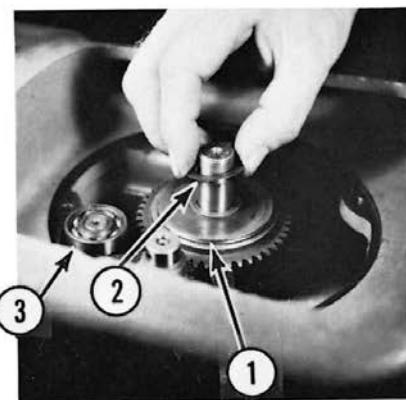

Fig. 3-33
- Q. Install upper planetary spacer with hub side up (1, Fig. 3-33). THE FOLLOWING STEP IS VERY IMPORTANT.
- R. Put on the shim washer or washers exactly as they were removed during disassembly (2, Fig. 3-33). If shim washers
- U. Install the upper ball bearing on top of the transmission shaft (3, Fig. 3-33).